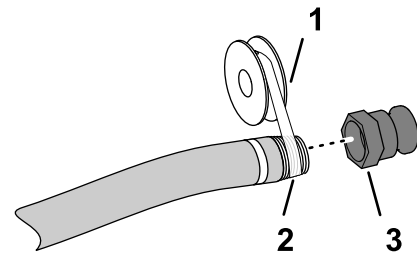

Figure 4
5. Apply PTFE thread sealant (Figure 4) to the threads of the fill hose fitting (1 inch—national pipe thread).
6. Thread the quick-disconnect coupling onto the fill hose and tighten it by hand (Figure 4).